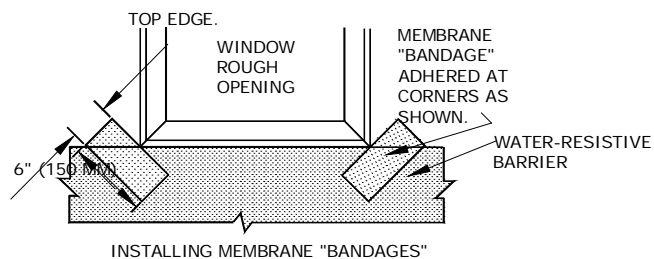

Fig 11.1
- Cut and staple a 12" (30cm) wide strip of Tyvek® StuccoWrap™ or code-approved water resistant barrier in line with bottom edge of the rough opening extending past jambs approximately 12" (30cm) on each side. Staple top edge only (Fig. 11.1).
- Cut self-adhering flashing membrane to approximately 4 in. (10cm) x 6 in. (15cm). Remove backer paper and install diagonally at sill corners (Fig. 11.1).